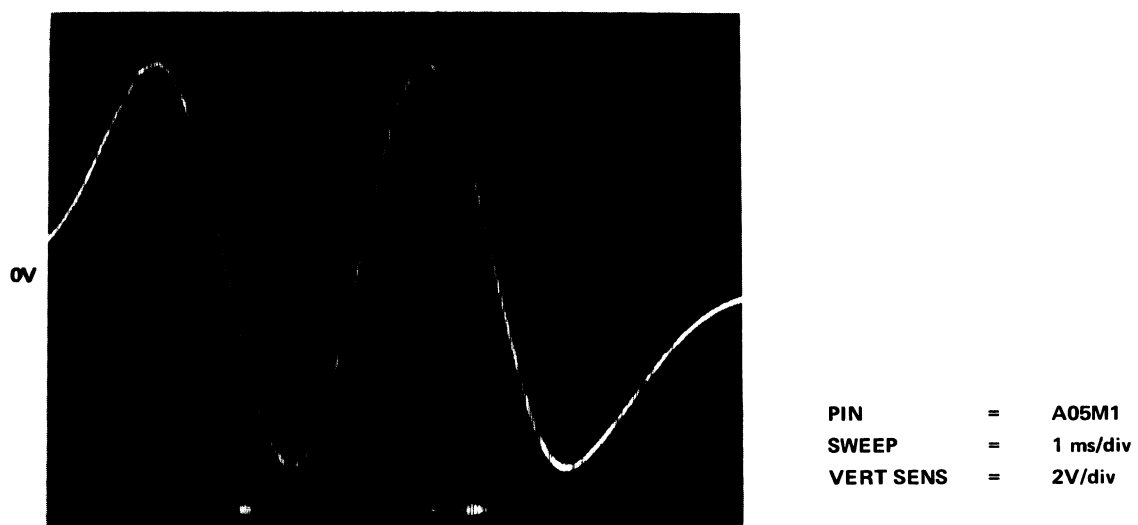

Figure 6-5 Velocity Amplitude Waveform
- c. Observe A05M1 for a scope display as illustrated in Figure 6-5. The duration of the center cycle must equal  $3.2 \pm .05$  ms.